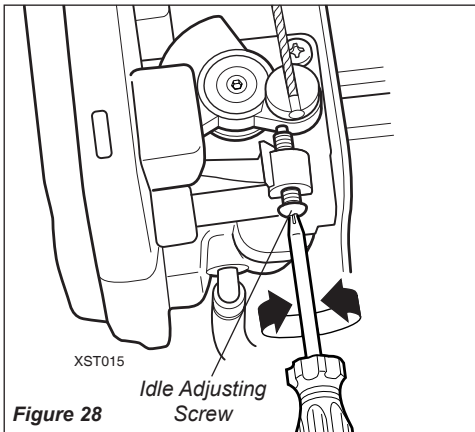

Figure 28
- If the attachment rotates when the engine is at idle, reduce the idle speed by turning the idle adjustment screw counter-clockwise. See Figure 28.